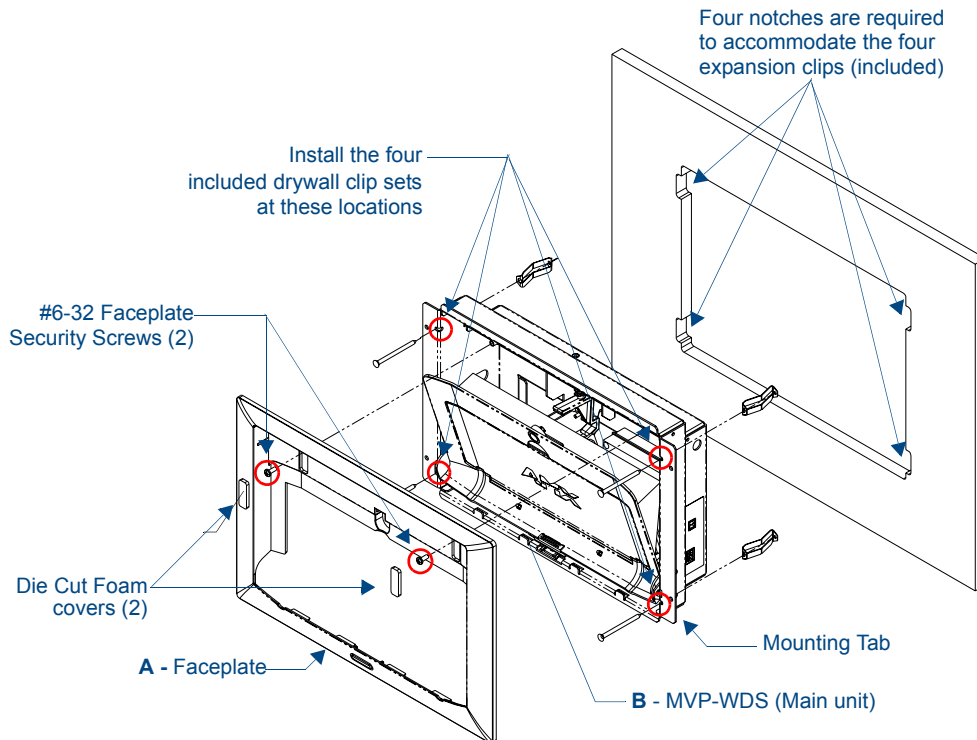

FIG. 11 MVP-WDS installation configuration for drywall surfaces
4. Install the four sets of drywall screws and expansion clips into the four oval notch locations along both sides of the main unit (FIG. 11).